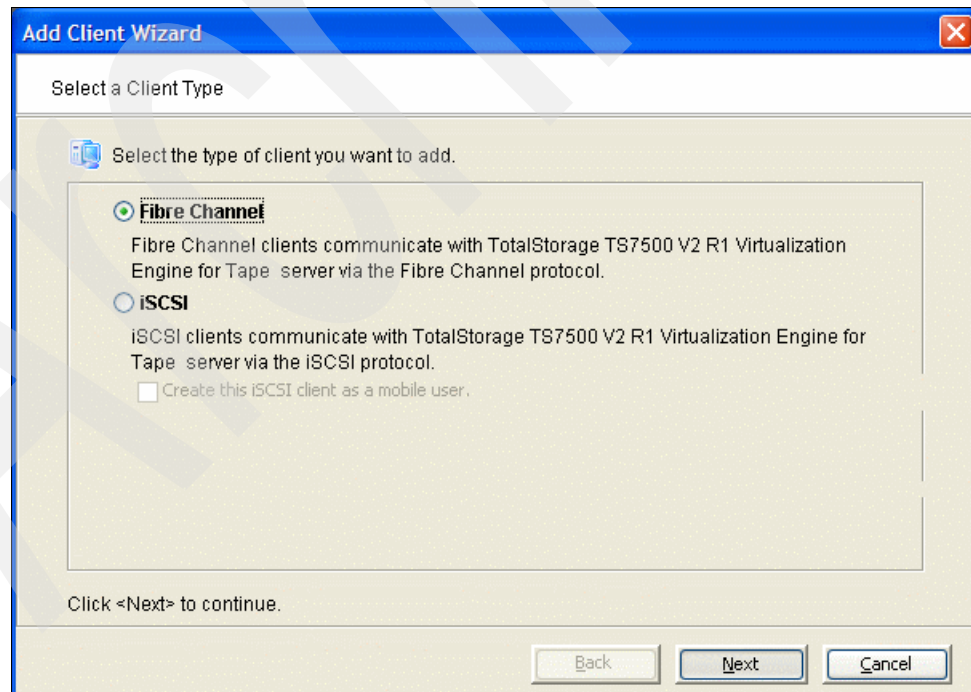

Figure 8-19 Adding SAN clients - select client access method
2. In the window shown in Figure 8-19, select the access method to be used by the SAN client. We chose **Fibre Channel**. Click **Next**.